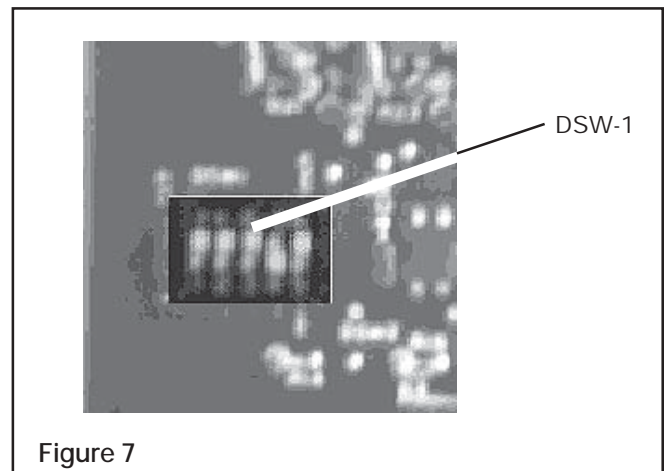

Figure 7
5. Check settings of Switch DSW-1 on printed circuit board (See Fig. 7)